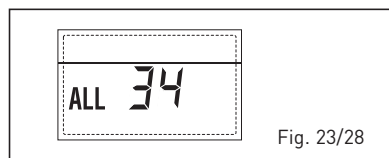

Fig. 23/28
– **RS-485 AND RS-485 COMMUNICATION ANOMALY “ALL 35” (fig. 23/29)**